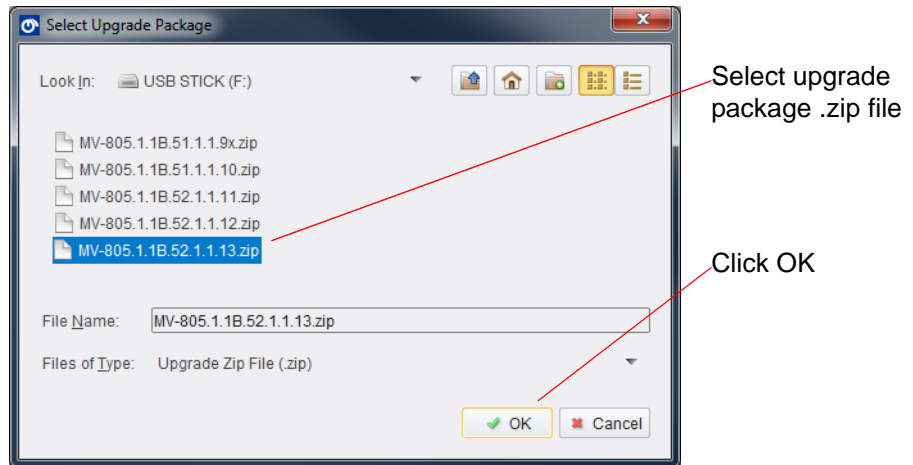

Figure 103 Select Upgrade Package Dialog
5. Select the upgrade package .zip file (see Figure 103) and click **OK**.